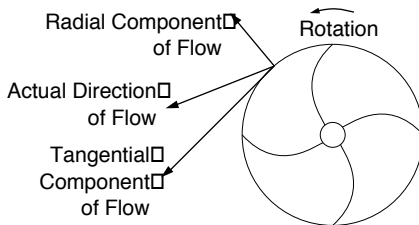

FIGURE 25. Liquid Flow Direction
- The actual liquid direction is a result of the two flow directions (Figure 25).